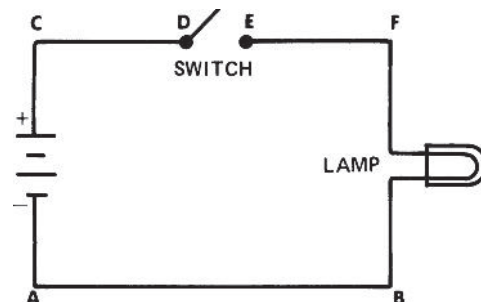

Fig. I-13 Open circuit caused by an open switch.
- **Open circuit.** An open circuit is one which does not have a complete path for electrons to follow. Such an incomplete path is usually brought about by a loose connection or the opening of a switch (Fig. I-13).